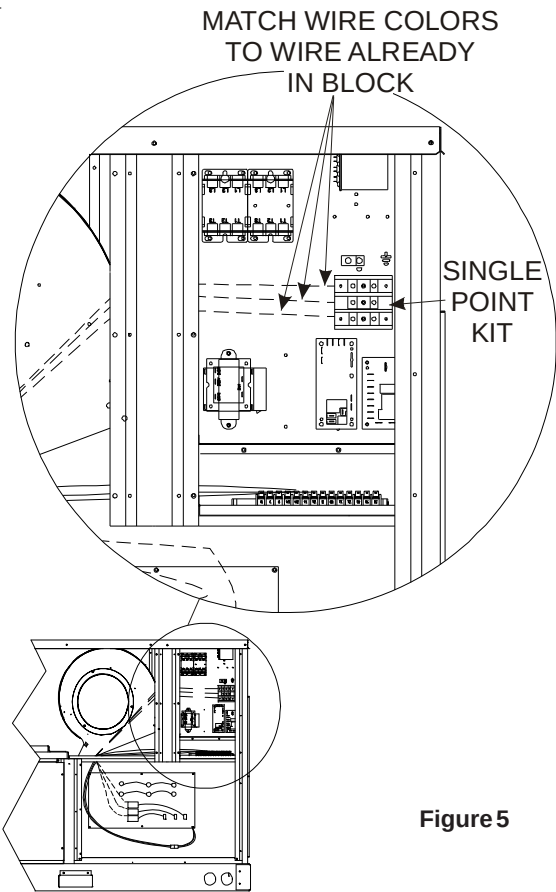

Figure 5
11. Connect EHK wires to the single point wire kit as shown in Figure 5.